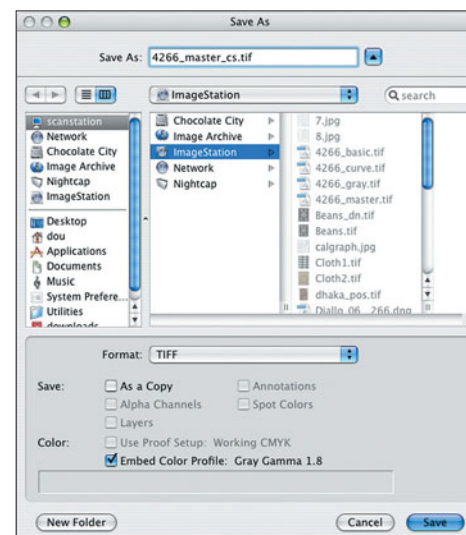

Figure 7.19 The appendage “_cs” to the file name indicates that capture sharpening has been applied.
10. Save a master image from which all derivatives will be produced (see Figure 7.19).